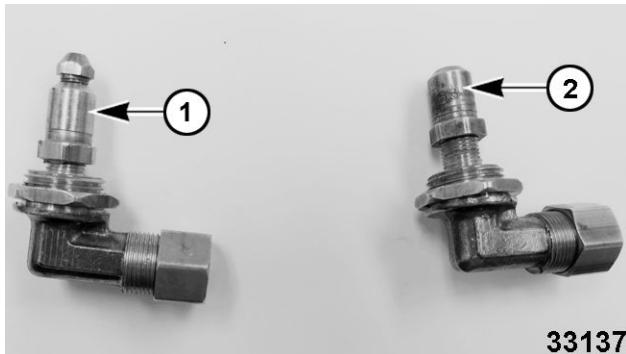

Fig. 36
**NOTE:** There are two types of orifices. The orifice used in the oven has a spud that screws into a threaded hood (1, Fig. 36). The open top and griddle uses a pre-drilled orifice hood (2, Fig. 36).